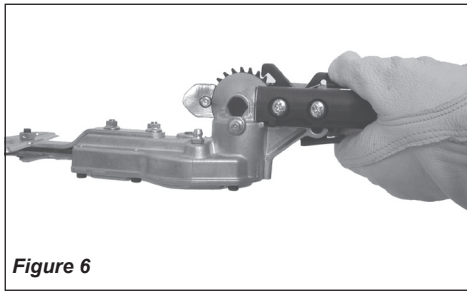

Figure 6
2. With the index finger of your left hand, press the latch lock. With your left thumb, press the latch release. See Figure 6.